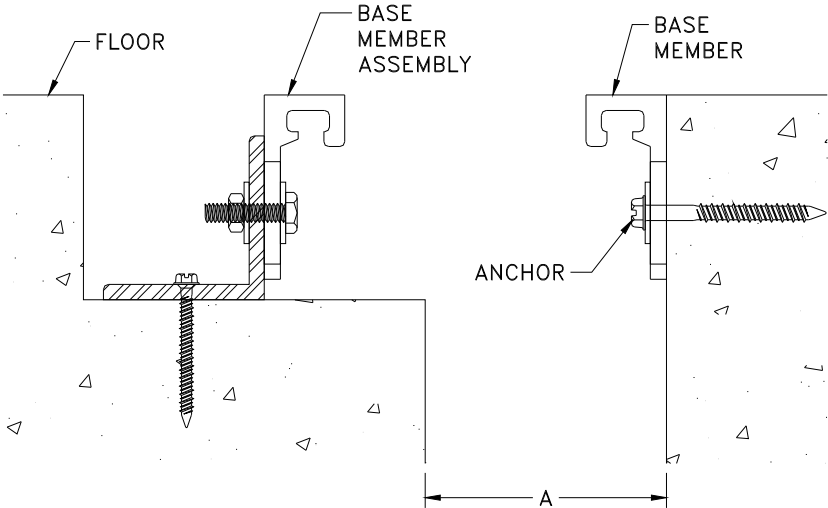

Figure 11
STEP 20. Repeat Step 15 through Step 19 above for each subsequent section of the base member assembly (see Figure 11).